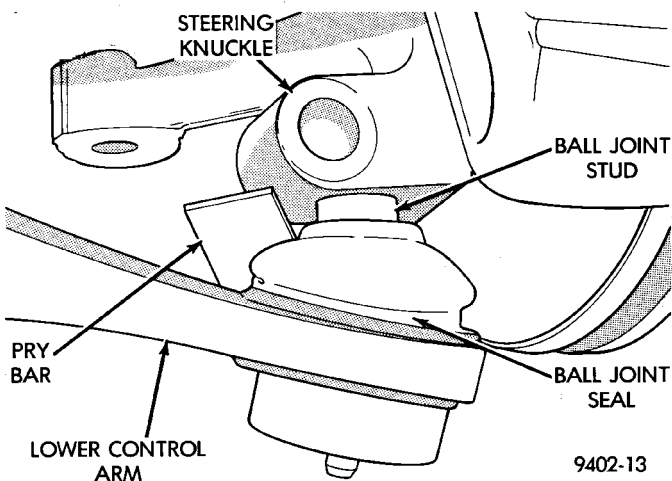

Fig. 11 Separate Ball Joint Stud from Steering Knuckle
(12) Separate ball joint stud from steering knuckle by prying down on lower control arm (Fig. 11).